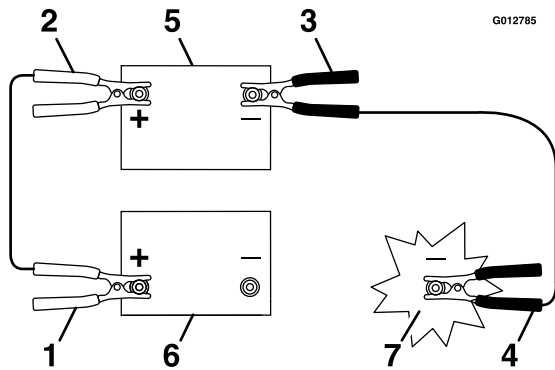

Figure 13
3. Connect the positive (+) cable to the positive (+) terminal of the discharged battery that is wired to the starter or solenoid as shown in Figure 13.